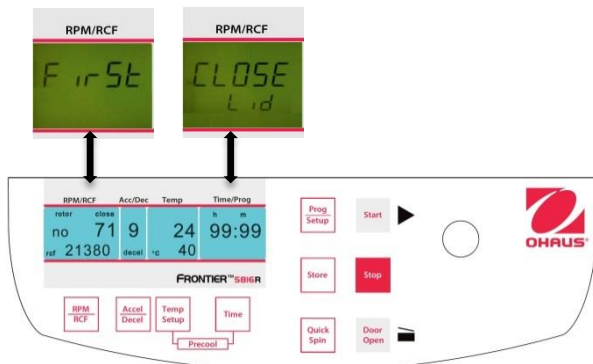
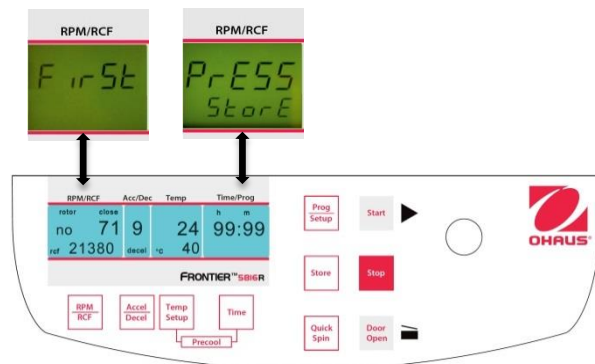

Figure. 23
Figure. 24
Close the lid of the centrifuge. Now proceed as described previously to set all important run parameters. If the lid isn't closed when storing the program, in the display **"RPM/RCF"** (A-1), the words **"FirSt"** and **"CLOSE Lid"** (See figure 23) flashes alternately. If you want to start the run without storing the program, in the display **"RPM/RCF"** (A-1), the words **"First"** and **"PrESS StorE"** (See figure 24) flashes alternately.
For adaption of data press the key **"Store"** (12) (refer to figures 23 and 24) for approx. 1 second. If the program is stored correctly, the word **"StorE"** appears in the display **"RPM/RCF"** (A-1). As a result, the word **"programm"** (M10) disappears.